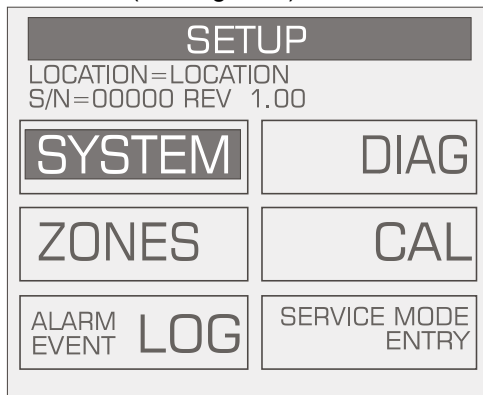

Figure 6. Main Setup Screen Showing Location of Service Mode Entry Option
c. Scroll to the bottom right of the screen (see Figure 6) to select the 'Service Mode Entry' option.